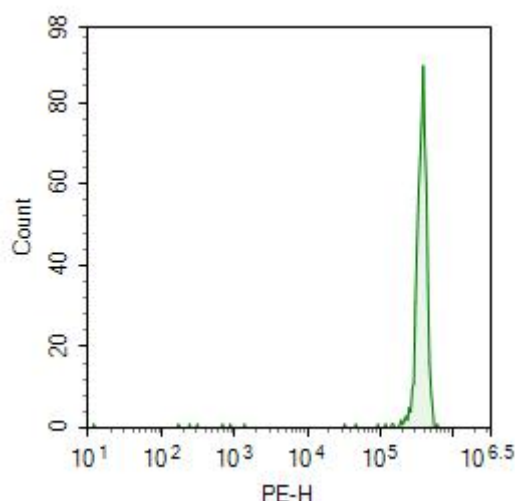

Figure3
- 4) Create PE and Count histogram from the "Total beads" parent gate (Figure 3).
5) Adjust the gains in the Parameters (the upper left of the window) for PE channel so that the MFI (PE channel) is around $(1.5-5) \times 10^5$ for Total beads (Figure 3).